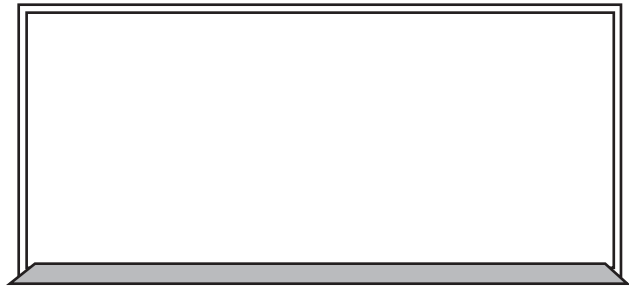

Fig. 11
1. Choose desired location for the illum window light panel. Fig. 11.